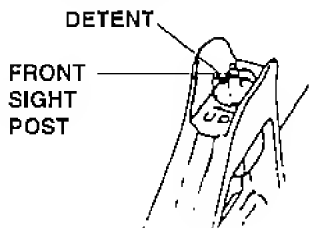

FIGURE 3 — FRONT SIGHT
2. Adjust elevation on front sight post; see Figure 3.